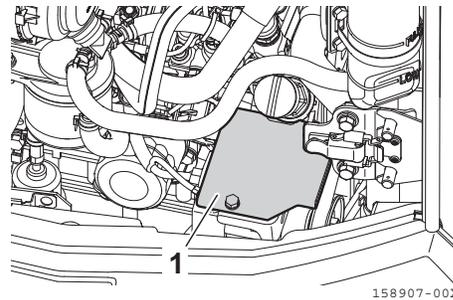
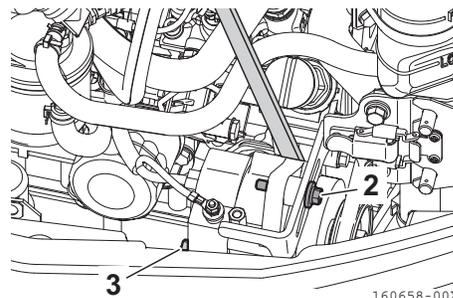

Fig. 8-41
Fig. 8-42
1. Remove the generator cover (**Fig. 8-41, 1**).
2. Loosen the securing bolt (**Fig. 8-42, 2**) and nut (**Fig. 8-42, 3**) of the generator.
4. With the belt tension at the specified value, tighten the securing bolt (**Fig. 8-42, 2**).
5. Check the belt tension again. If the tension is proper, tighten the securing nut (**Fig. 8-42, 3**) and install the generator cover (**Fig. 8-41, 1**).